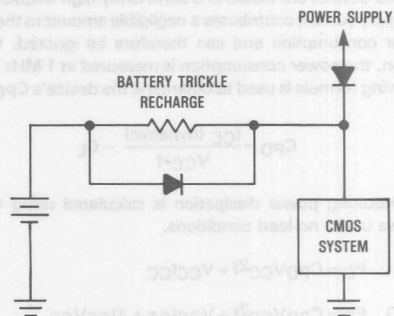

Figure 7. Battery Backup System
1. The recommended power supply voltages should be observed. For battery backup systems such as the one in Figure 7, the battery voltage must be at least 2.7 volts (2 volts for the minimum power supply voltage and 0.7 volts to account for the voltage drop across the series diode).